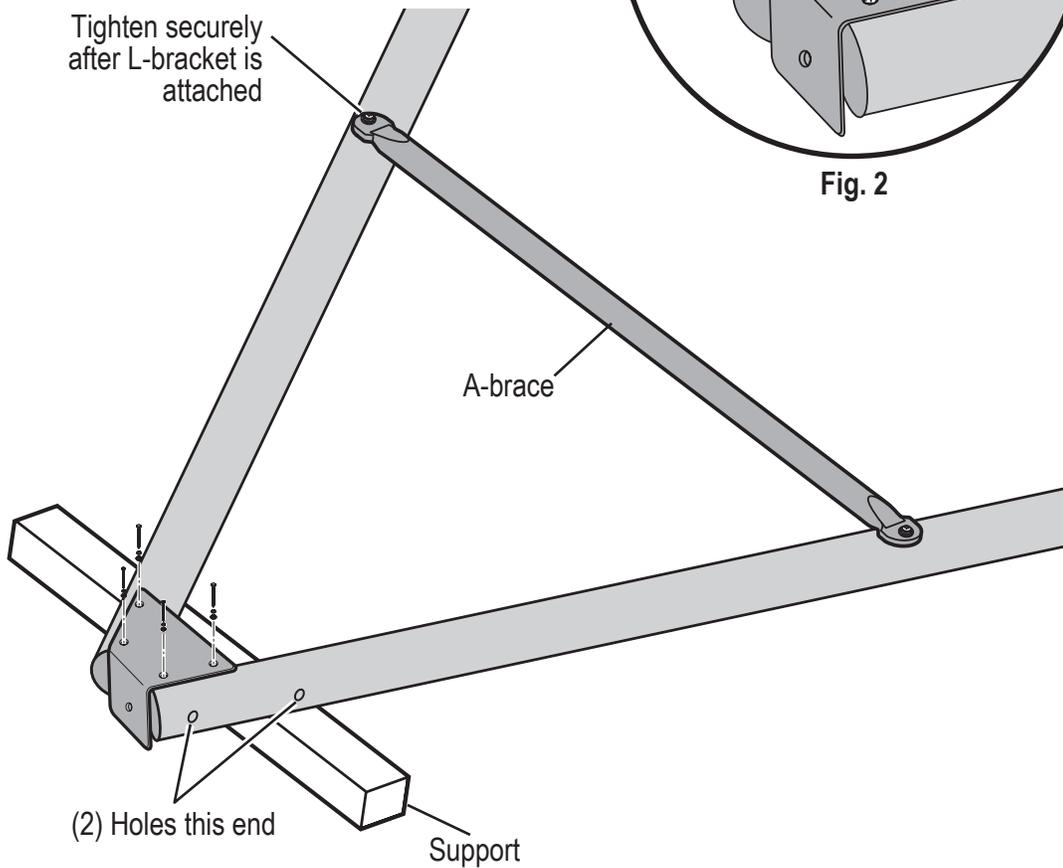

**Fig. 1**
2. Place the L-bracket on the posts and align with pre-drilled holes. **Fig. 1.**